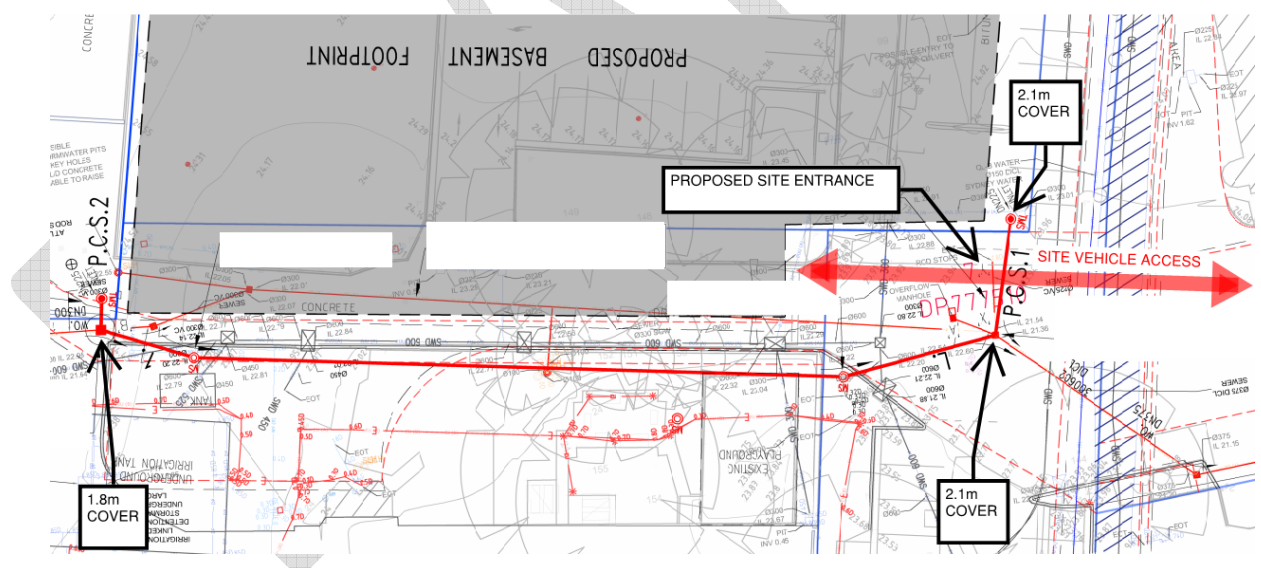
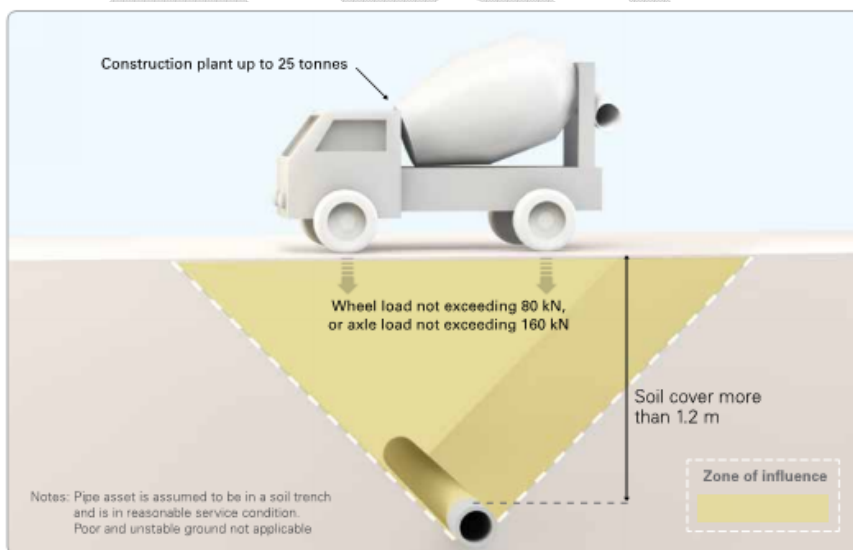

Figure 7-3 Sewer pipe cover
Figure 7-5 Figure 6 of SWC BOA Pipe Assets
- The cover of the new sewer ranges from 1.8m at the western manhole to 2.1m at the eastern manhole as per Figure 7-3. Generally, construction plant with wheel load not exceeding 80kN or axle load not exceeding 160kN is permitted over sewer where there is more than 1.2m of soil cover (see Figure 7-5). Only the section of sewer “PCS1” is located directly under construction vehicle’s expected path of travel on Civil Drive (The expected construction vehicle access route is via Civic Dr > Jacob St > Rickard Rd > Stacey St. Refer to Early Works Preliminary Construction Pedestrian Traffic Management Plan by Arup 2019). The other sections of the sewer are outside of boundary/hoarding line and is not expected to receive construction vehicle loading.